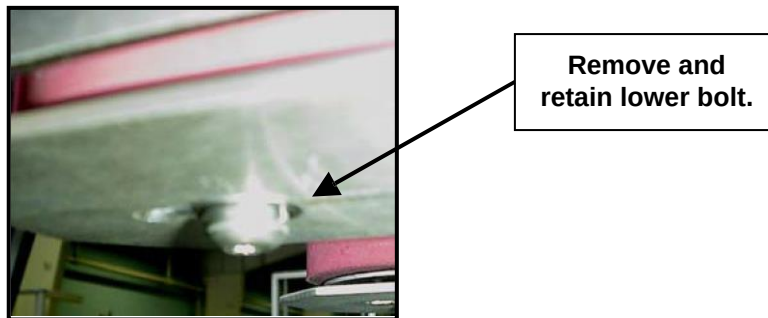

Figure 20. BOTTOM
- 2b.** From the underside of both assemblies, remove the bottom idler pulley bolt. Refer to Figure 20. Retain mounting hardware.